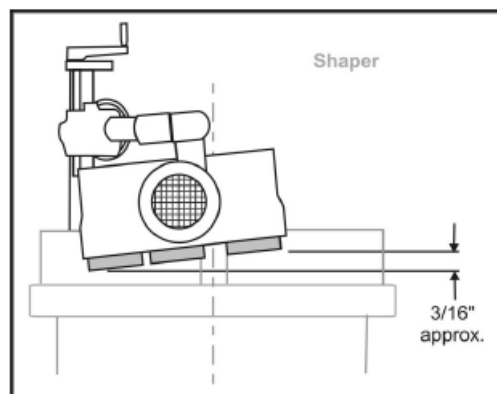

Figure 19
3. When the Stock Feeder is in edgewise position, it must be inclined slightly towards the work table in the direction of feed, to ensure the workpiece remains forced down against the table. In other words, the outfeed roller should be approximately  $\frac{3}{16}$ " closer to the work table than the infeed roller. See Figure 19.
4. When the Stock Feeder is in the edgewise position, or angled for a beveled workpiece, the axis of the cutter should be between the infeed roller and the center roller (between the two center rollers on the 4-roller model). See Figure 19. The center roller should NOT be directed toward the opening between the fences, but should act directly against the fence.